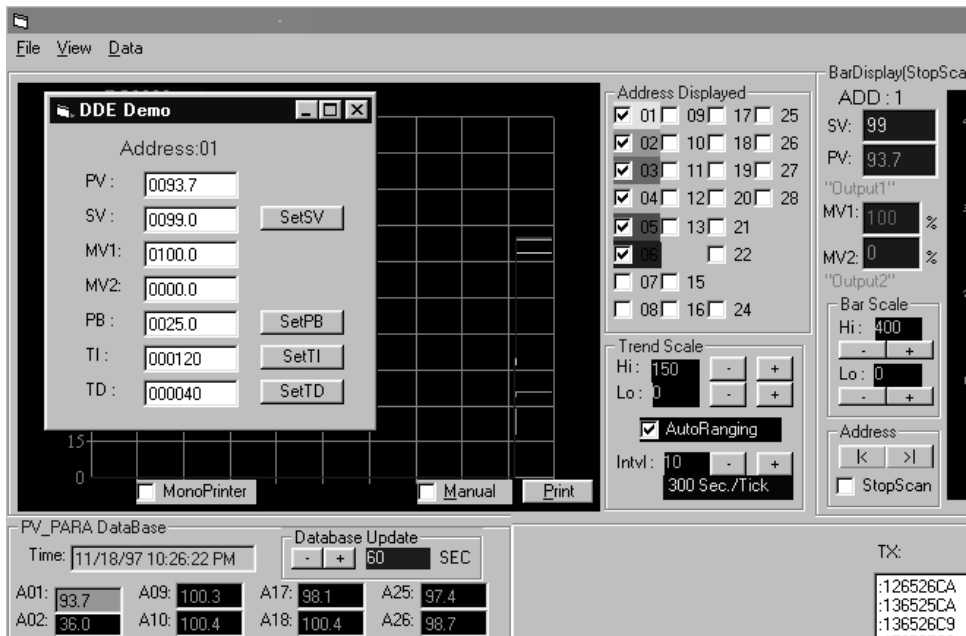

Figure 8.2 The DDECLT linking CN491A-SOFT
- Execute the file DDECLT.exe, and a form like Figure 8.2 will appear. The DDECLT.exe is now linked to CN491A-SOFT! The corresponding text box shows the linked data.